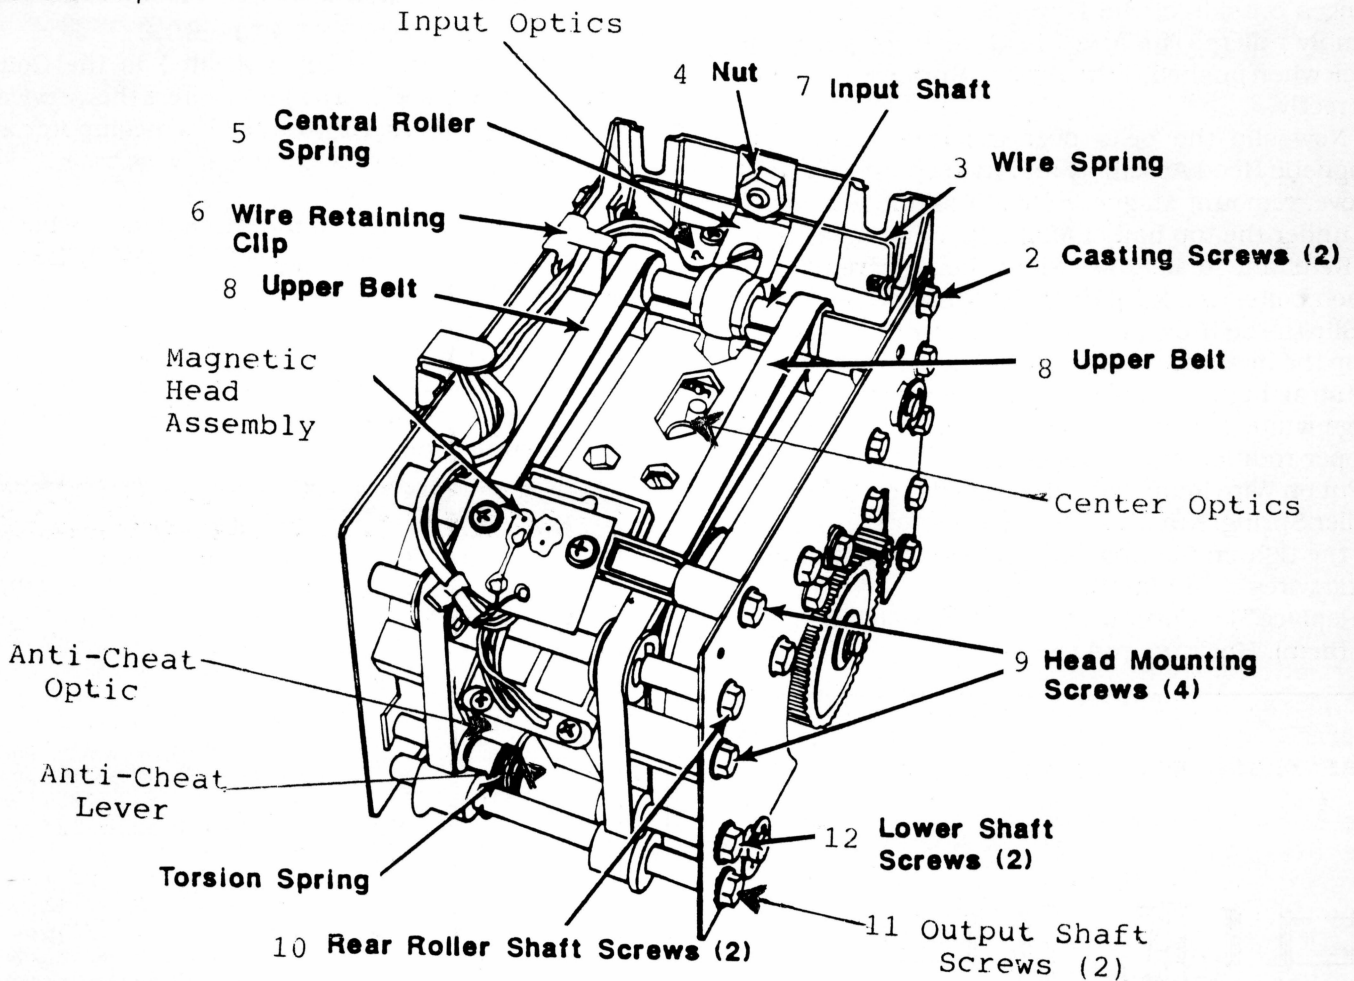

Figure 2
- b) Back out Casting Screws until Wire Spring can be removed (Figure 2, steps 2 & 3).
- Remove Wire Retaining Clip (Figure 2, steps 4, 5, & 6).
- d) Remove Input Shaft with Upper Belts attached, but be careful not to drop the bushings on either end of the shaft. Remove belts from Input Shaft (Figure 2, steps 7 & 8).
- e) Remove the four screws to the Magnetic Head Assembly, but don't remove assembly (Figure 2, step 9).
- f) Remove the Rear Roller Shaft Screws and remove Rear Roller Shaft. Slide belts off Magnetic Head Assembly and move assembly to the left out of your way (Figure 2, step 10).
g) Remove Output Shaft Screws and Output Shaft (Figure 2, step 11).
h) Remove Lower Shaft Screws and Lower Shaft Anti-Cheat Assembly with Upper Belts attached. Push down to release shaft from BT (Figure 2, step 12).
While you have the BT disassembled, clean the optics with isopropyl alcohol and a swab. First remove the Input Optic by removing the Phillips screw, then swab both lenses with alcohol and remount optic (refer to figure 2 for locations of optics).